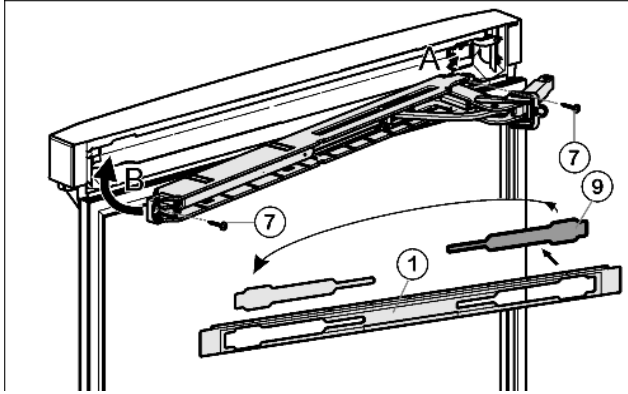

Fig. 23
- ▶ Remove the cover *Fig. 23 (9)* from the faceplate *Fig. 23 (1)* and re-insert it at the other side.
- ▶ Engage the upper soft stop unit with the joint on the hinge side (A) and swivel into place (B).
- ▶ Screw down the soft stop unit. (2 Torx 15) *Fig. 23 (7)*